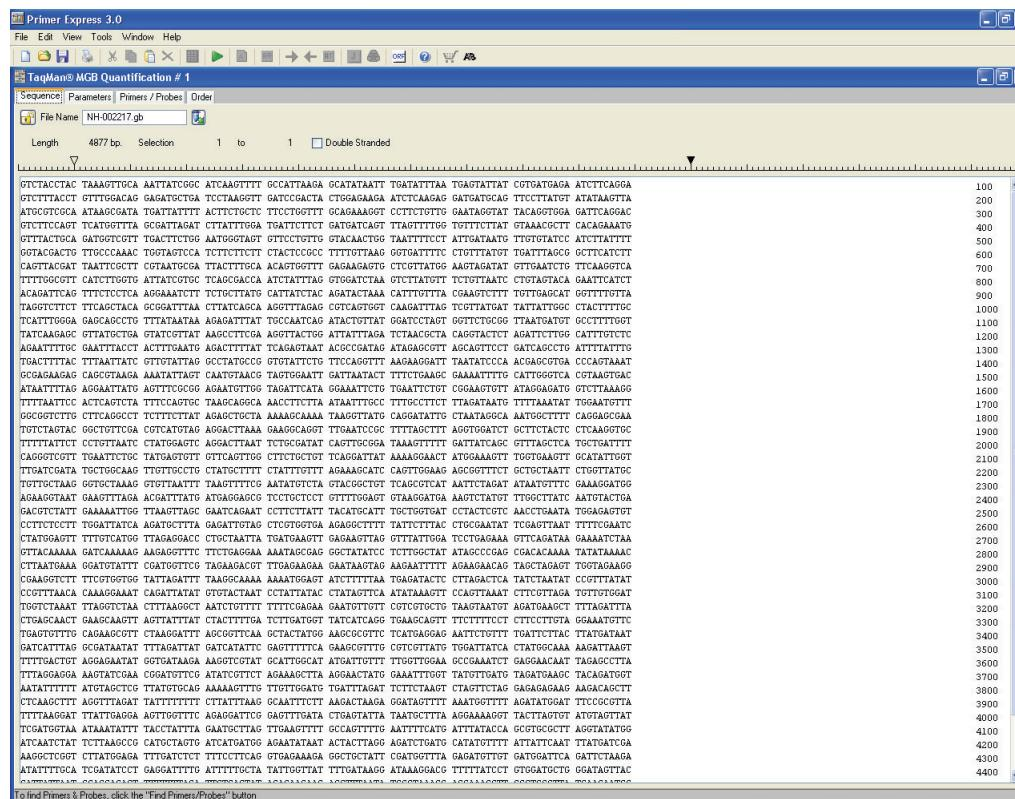

Figure 2. Sequence tab
3. Click **Add**. Primer Express software loads the nucleotide sequence from the file and displays the sense strand in the Sequence tab (see “Figure 2. Sequence tab” on page 12). The sequence serves as the starting point for primer and probe design.